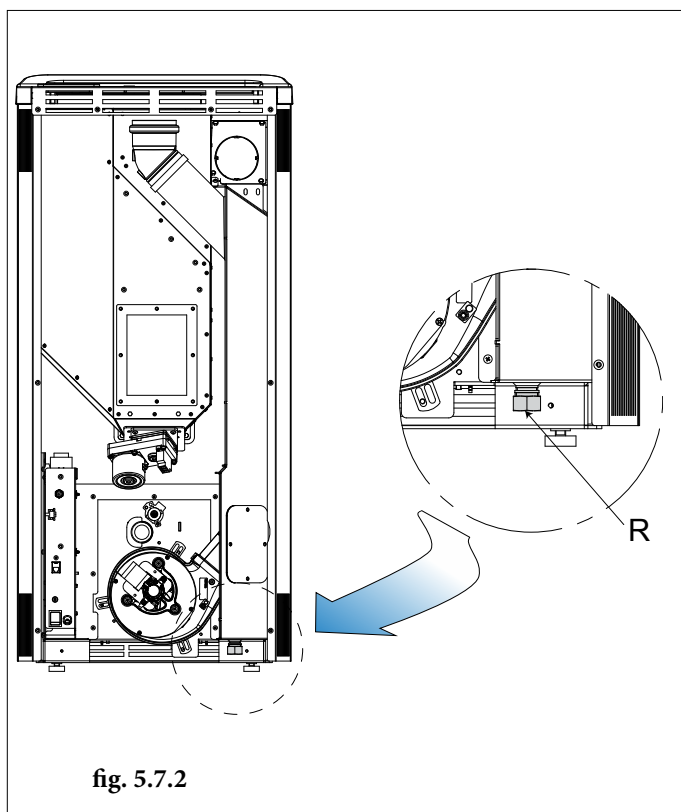

fig. 5.7.2
5.7.2 As an additional safety measure, there is a threaded fitting with locking cap "R" designed to connect the condensate drain pipe, if an unlikely event may require such measure (Fig. 5.7.2).